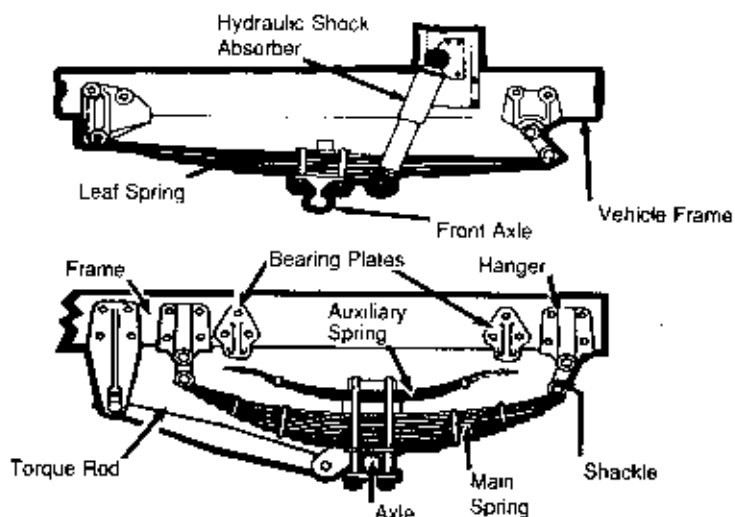

Figure 2.2
- Spring hangers (Figure 2-2) that allow movement of axle from proper position,
- Torque rod or arm, U-bolts, spring hangers, or other axle positioning parts that are cracked, damaged, or missing (Figure 2-2),